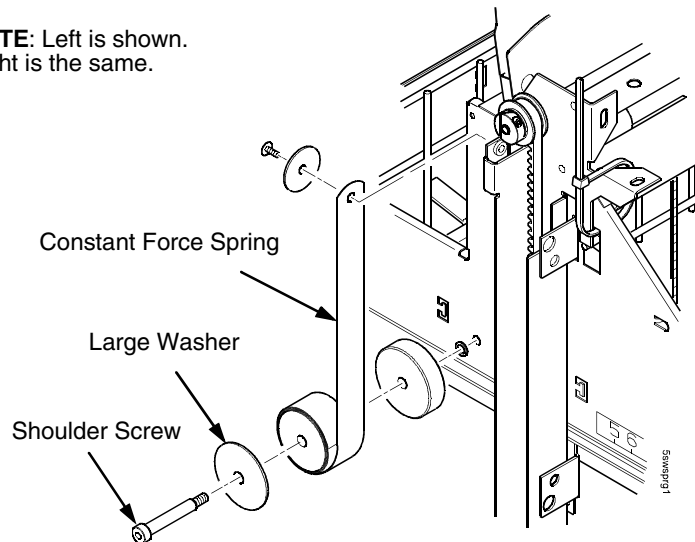

Figure 96. Releasing the Constant Force Spring
6. Remove the shoulder screw and large washer that secure the constant force spring to the vertical rail. (Figure 96.)